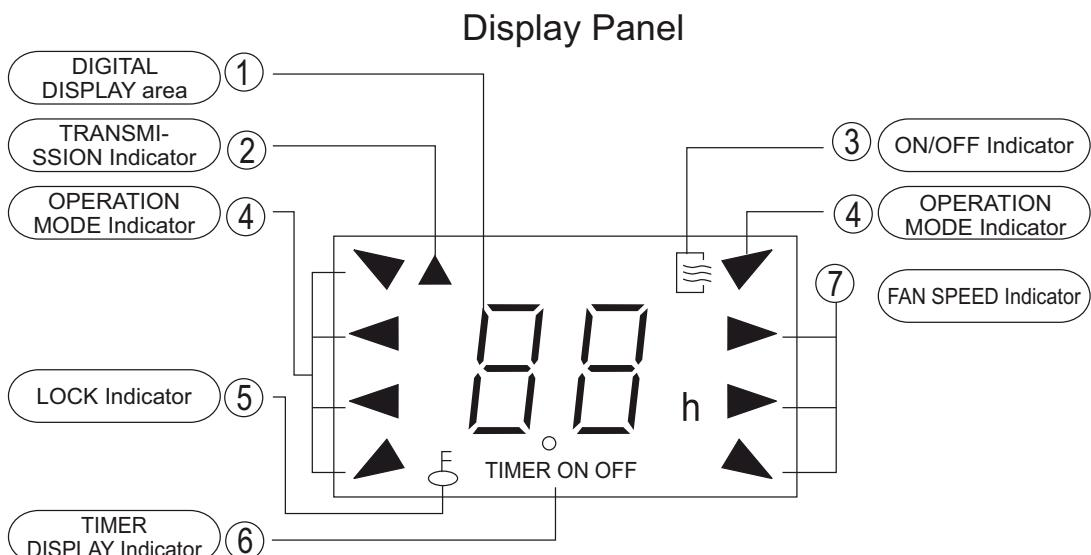

Fig. 2
- ① **DIGITAL DISPLAY area:** This area will show the set temperature and, if in the TIMER mode, will show the ON and OFF settings of the TIMER. If in the FAN mode, nothing is appeared.
- ② **TRANSMISSION Indicator:** This indicator flashes one time when remote controller transmits signals to the indoor unit.
- ③ ON/OFF Indicator: This symbol appears when the unit is turned on by the remote controller, and disappear when the unit is turned off.
- ④ OPERATION MODE Indicator: When press the MODE button, it shows the current operating mode -- "AUTO", "COOL", "DRY", "HEAT"(Cooling only model without) , or "FAN" mode.
- ⑤ LOCK Indicator: LOCK display is displayed by pushing the LOCK button. Push the LOCK button to clear display.
- ⑥ TIMER DISPLAY Indicator: This display area shows the settings of the TIMER. That is, if only the starting time of operation is set, it will display the TIMER ON. If only the turning off time of operation is set, it will display the TIMER OFF. If both operations are set, it will show TIMER ON-OFF which indicates you have chosen to set both the starting time and off time.
- ⑦ FAN SPEED Indicator: Press the FAN SPEED button to select the desired fan speed setting (Auto-Low-Med-High). You selection will be displayed in the LCD window except the Auto fan speed.
**⚠ NOTE:** All signs shown in the Fig.2 is for the purpose of clear presentation. But during the actual operation only the relative functional signs are shown on the display panel.